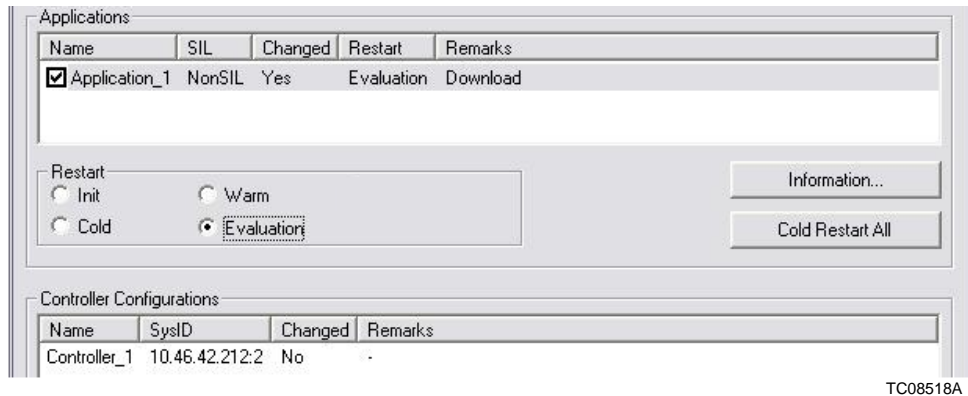

Figure 17. Online Analysis Window
- b. Verify that Evaluation is selected in the Online Analysis window (Figure 17) and click **Continue**. Only the modified application should be listed.